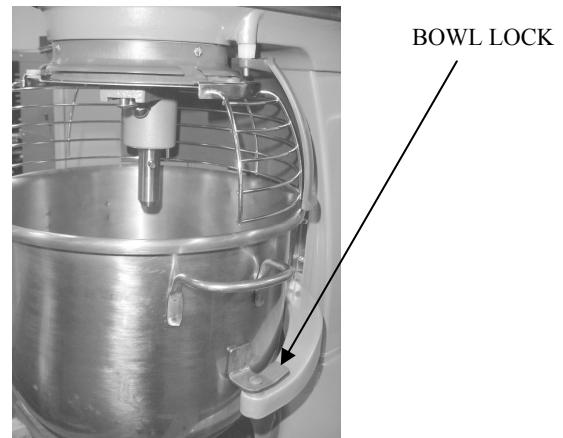

Fig. 5
5. Unseat bowl from pin and pivot bowl out (Fig. 5).
5. Disengage bowl lock and pivot bowl out slightly (Fig. 5).